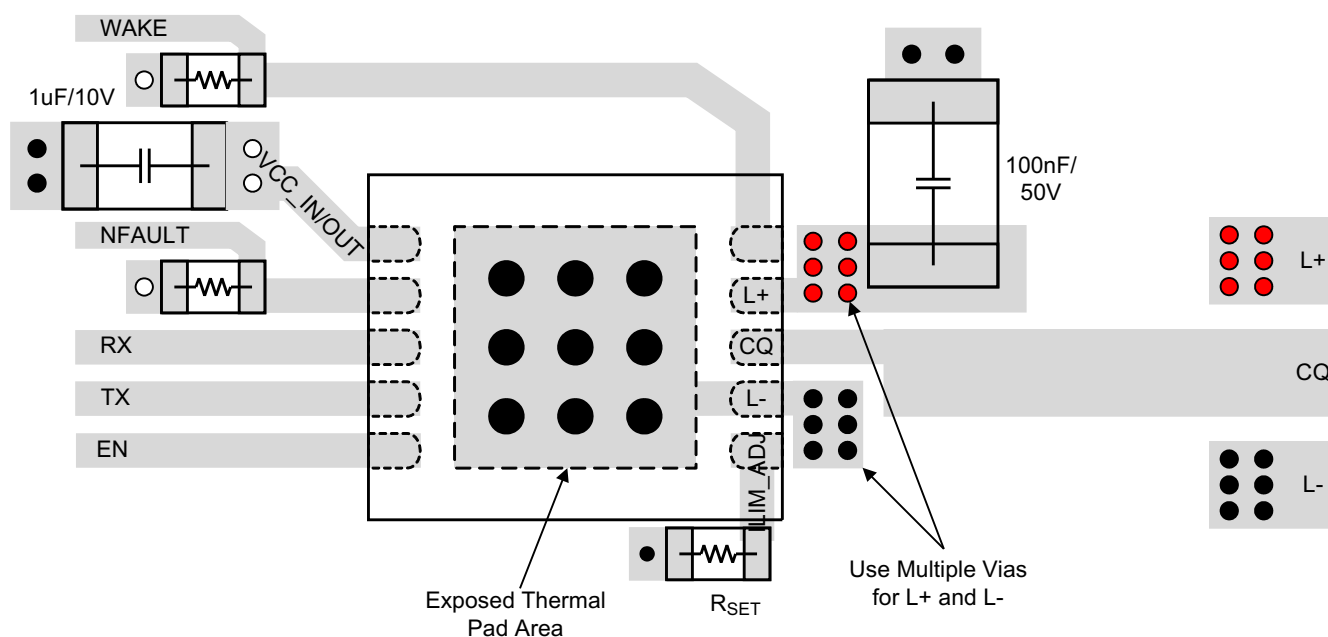

图 9-9. Layout Example
- The optimum placement of the capacitor is closest to the transceiver's L+ and L- terminals to reduce supply drops during large supply current loads. See Figure 9-9 for a PCB layout example.